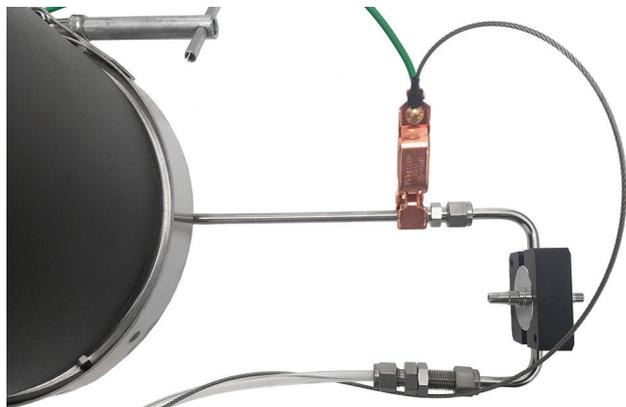

Figure 2. The flow cell connected to the Flash 150 system.
2. Connect the flow cell inlet to the radial compression module outlet using the supplied SWAGELOK union connection; see Figure 2. Note that flow cell is not unidirectional.
3. Connect the flow cell outlet to the fraction collection assembly tube using the supplied SWAGELOK union connection; see Figure 2.